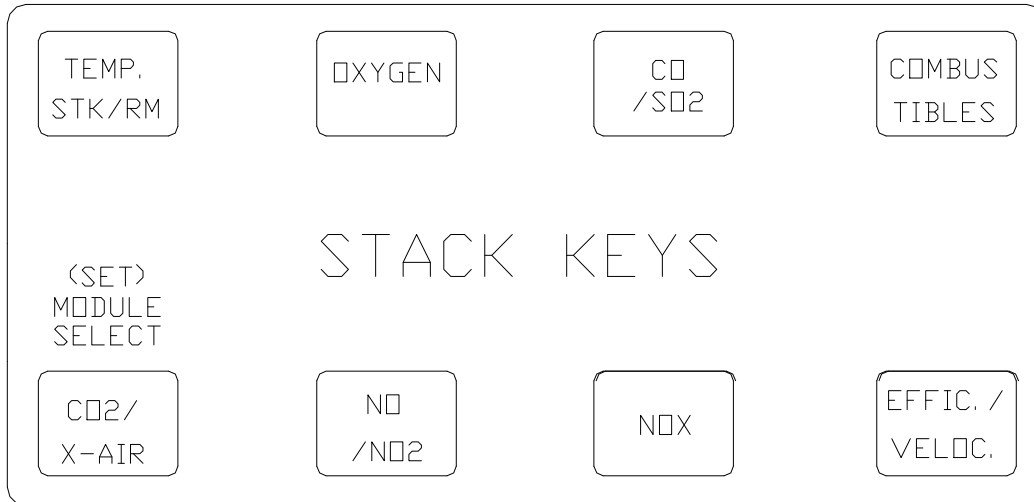

FIGURE 1
1. You can now read on the display any four stack parameters that you wish simply by operating any of the eight basic buttons shown in Fig.1.